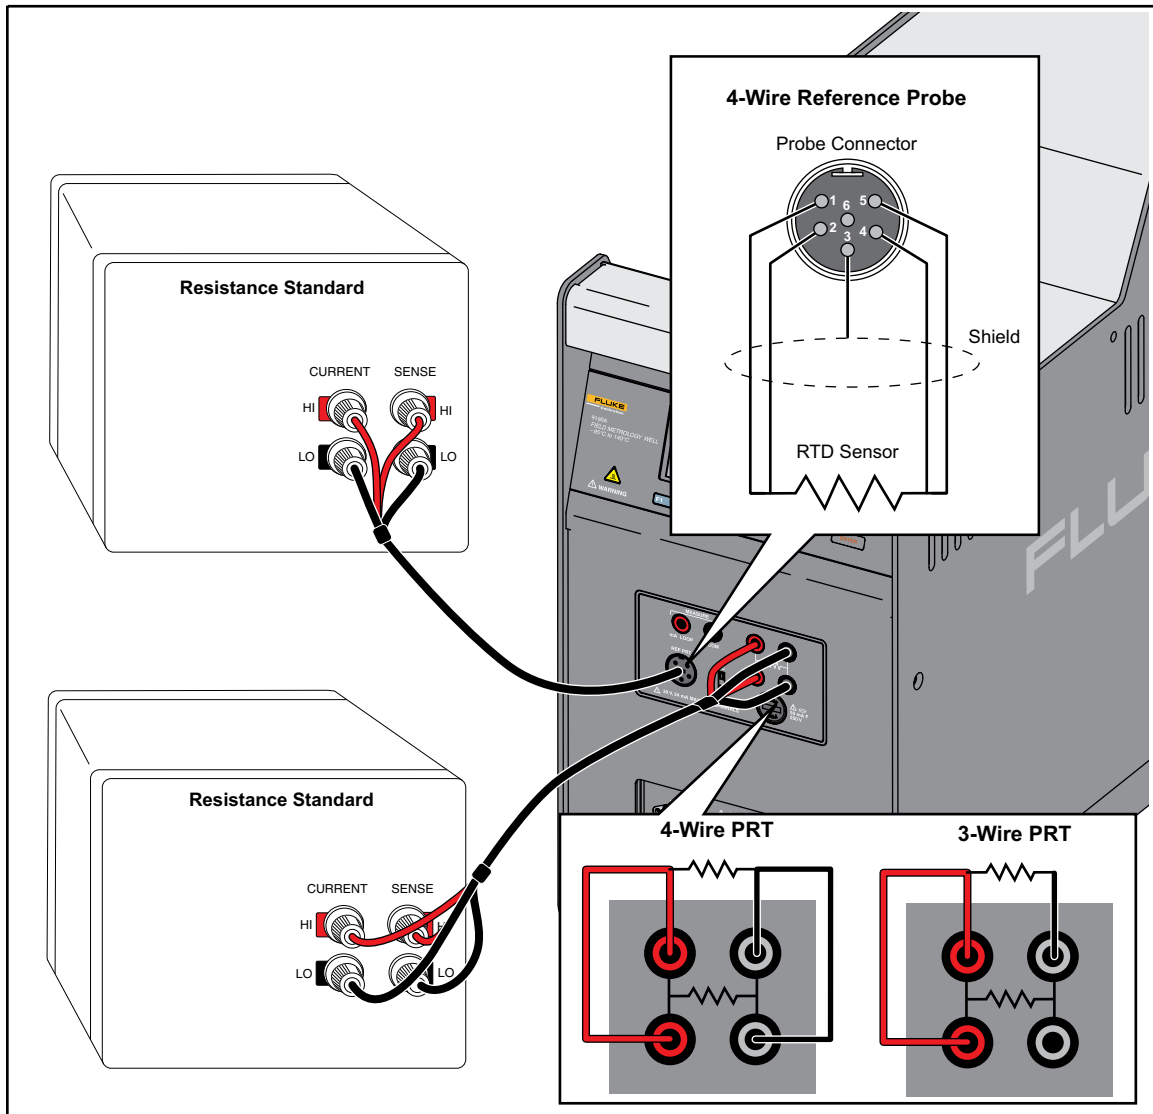

Figure 4-3. 4-Wire Setup
1. Connect the 100  $\Omega$  resistor in the 4-wire UUT configuration (see Figure 4-3).
1. Connect the 100  $\Omega$  resistor in the 3-wire UUT configuration (see Figure 4-3).